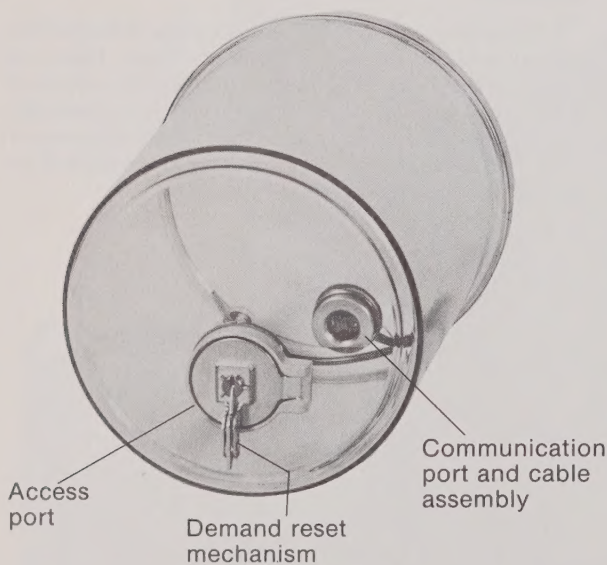

Fig. 4. Cover assembly.
An optical communication port, normally mounted in the meter cover (Fig. 4), provides two-way serial communication between the register and an external programmer or reader. The communication port is used by the TM-80 programmer to (1) initially program the register; (2) reprogram the register; or (3) by a reader to automatically read billing data and perform demand reset. A programmable security code prevents unauthorized access to the register via the communication port.
The standard cover supplied on a meter with a Type TM-80 register is made of LEXAN resin and is equipped with a communication port and a combination battery access port/demand reset mechanism. See Fig. 4. The access port/demand reset mechanism is secured with standard locking or sealing devices. The cover always contains the communication port; however, the following alternatives are also available for battery access and demand reset.
2. A time-of-use watthour meter cover assembly that includes the programming communication port and cable assembly (see Fig. 4), a battery access port and/or a demand reset mechanism.
2. Access Port and/or Demand Reset Assembly -- These assemblies (shown in Fig. 4) perform the following functions: